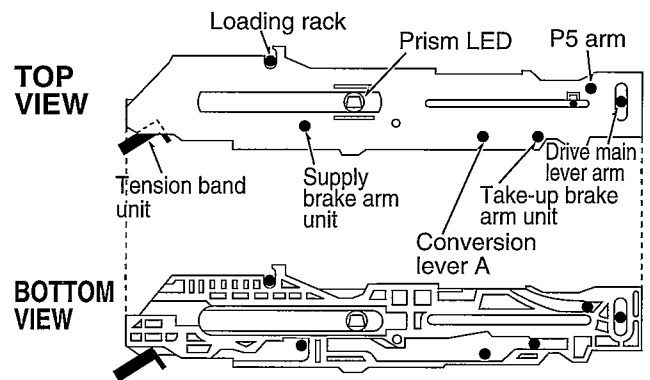

Fig. E18
- ※ Conversion lever A, P5 arm, Supply brake arm unit and the projection of Take-up brake arm have to be installed to the groove under the Main lever (Fig. E18).